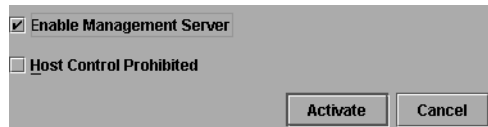

Figure 79: Configure Open Systems Management Server dialog box
1. Choose **Configure > Management Server** from the **Product Manager** window. The **Configure Open Systems Management Server** dialog box displays (Figure 79).